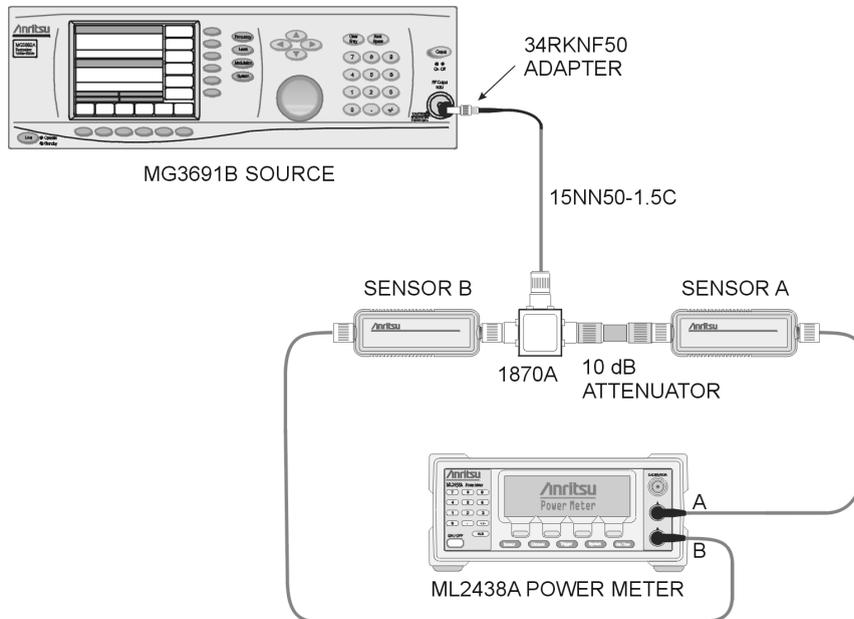

Figure 2-1. Level Accuracy Across Frequency Test Pre-test Setup
5. Install the 10 dB Fixed Attenuator to the other power splitter output and then connect sensor A to the end of the Attenuator (Refer to Figure 2-1).
9. Connect the power splitter to the MG3691B output and sensor B to one of the power splitter outputs. Install the 10 dB Fixed Attenuator to the other power splitter output and then connect sensor A to the end of the Attenuator. Refer to Figure 2-1.
37. Connect the power splitter to the MG3691B output and connect sensor B to one of the power splitter outputs. Install the 30 dB fixed attenuator to the other power splitter output, and connect sensor A to the attenuator. Refer to Figure 2-1.